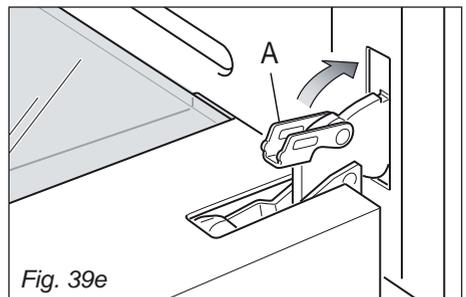

Fig. 39e
- Unlock the oven door by opening it completely and closing the lever "A" on the left and right hinges (fig. 39e).